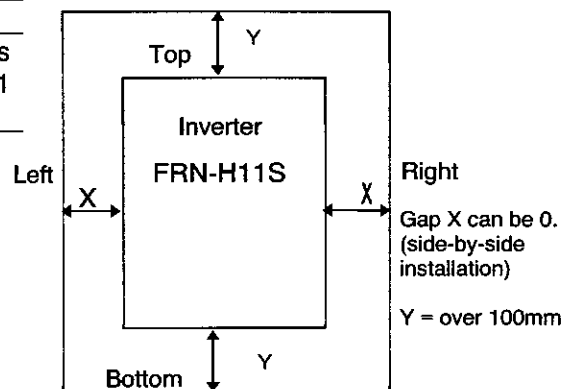

Fig. 2-2-1
- As heat is generated during inverter operation, the spaces shown in Fig. 2-2-1 are required to ensure sufficient cooling. As heat radiates upward, do not install the product beneath a device sensitive to heat.